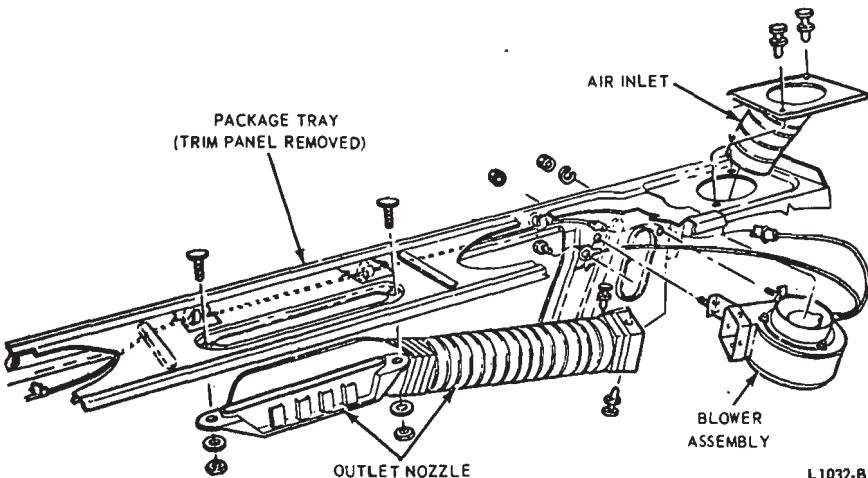

FIG. 32—Remote Defogger Disassembled
- Remove two screws attaching the switch to the control assembly (Fig. 32) and remove the switch.
Remove the rear seats. In the trunk, disconnect the inlet and outlet hoses from the blower (Fig. 32). Then, disconnect the blower wires and retaining nuts and remove the motor.
Disconnect the nozzle hose at the blower housing. Then, remove 2 nuts and washers attaching the nozzle to the package tray and remove the nozzle (Fig. 32).
Remove the rear seats and the package tray trim panel. Then, remove the 2 air inlet retainers and lift the inlet from the package tray (Fig. 32).